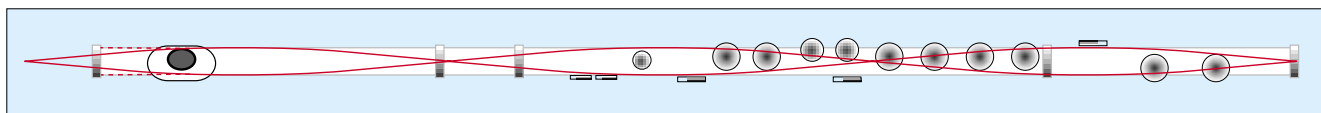

Figure 4(c): The third harmonic of the lowest note playable on a flute.
► Far more important than the material from which the flute is constructed are the shape and angle of the embouchure hole, the height of the embouchure chimney, and the position of the cork end-stop that tunes the instrument. A badly adjusted cork can mis-tune the registers by a full semitone relative to one another, and will limit the upper note that the instrument is capable of producing. However, the existence of the cork — or, more accurately, the cavity between the embouchure hole and the cork — has another profound effect, as shown in Figures 4(a), 4(b) and 4(c) above.